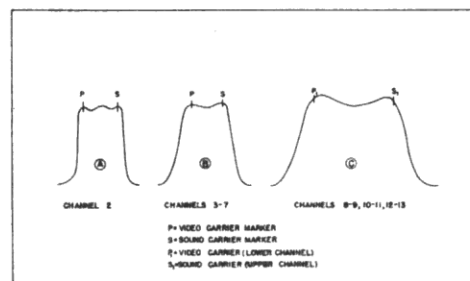

Fig. 14. R-F Alignment Curves
The minimum requirements for correct r-f alignment are (1) to provide the correct bandwidth, (2) for the response curve to be centered within the limit frequencies shown for each of the individual channels as in Figure 14, and (3) for the response curve to be adjusted for maximum amplitude consistent with correct bandwidth. To provide these minimum requirements, the r-f coils are overcoupled and loaded with resistance. Tuning of the coils is affected by changing inductance of the individual coils. Except for the Channels #2 and #3 coils, the coupling is fixed by the design of the coil and switch wafers.
For Channels #2 and #3, the r-f coils should be aligned to give approximately the curve shown in Figure 14(A) and 14(B). The "P" marker represents the video carrier marker, while the "S" marker is the sound marker. The frequency of these markers is indicated for each step of the alignment procedure. Adjustment of the bandwidth is made by moving the plate coil closer to the grid coil or vice-versa. On Channel #2, the sliding of the copper rings will give both the required bandwidth and the frequency adjustment. Spread or squeeze turns in plate and grid coils to change frequency. Spreading turns results in a raising of the frequency; while squeezing turns lowers the frequency.